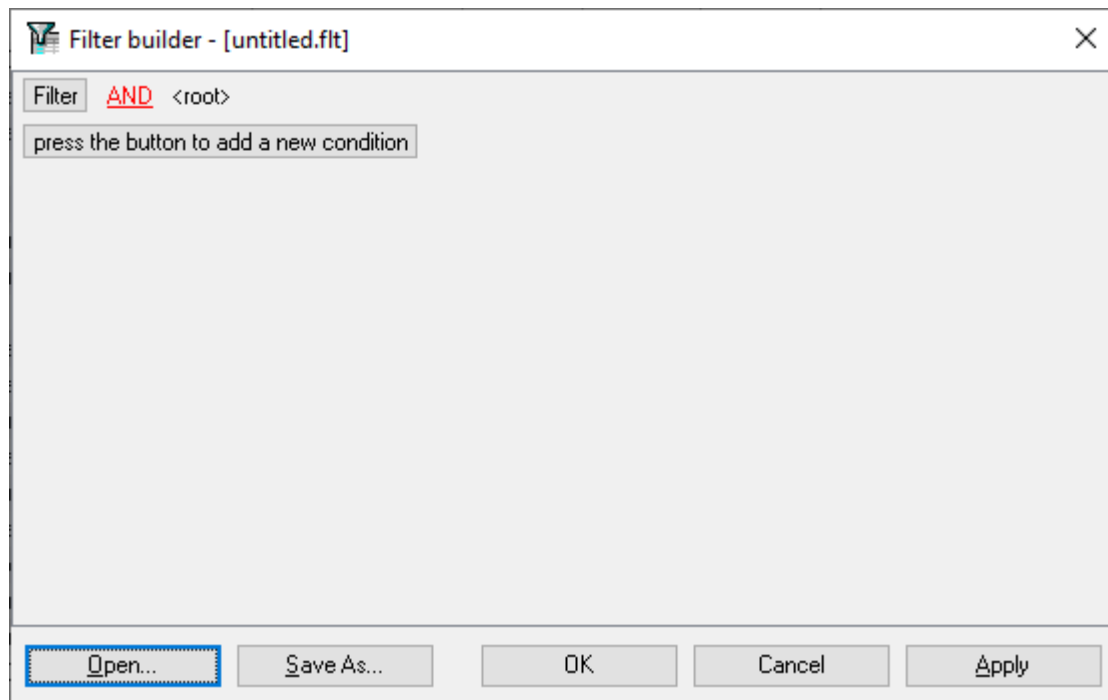

Fig. 4 Filter
14. **Filter** - open the dialog box where you can configure filtering the data (fig. 4)